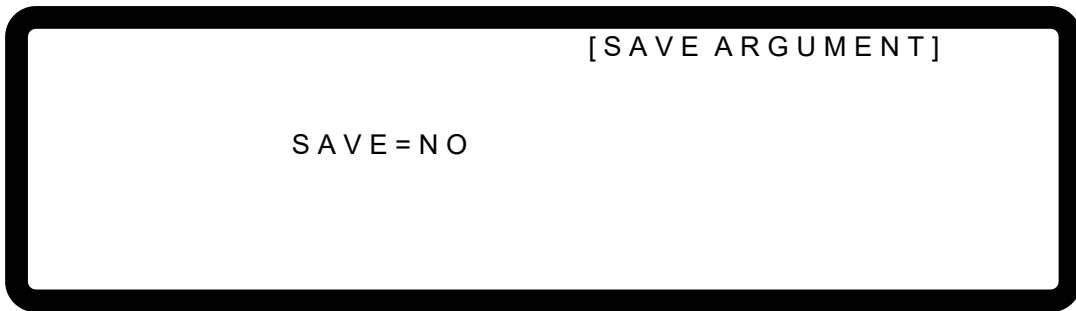

Figure 3-121
- The APG Voltage calibration is done once the above actions are completed. To save the calibration data, press "SAVE" will prompt a confirmation page as Figure 3-121 shows. Press "1" or "Rotary" (⊙) to set SAVE=YES and press "ENTER" to save it. If there is no need to save it, press "EXIT" to return to the Calibration screen.